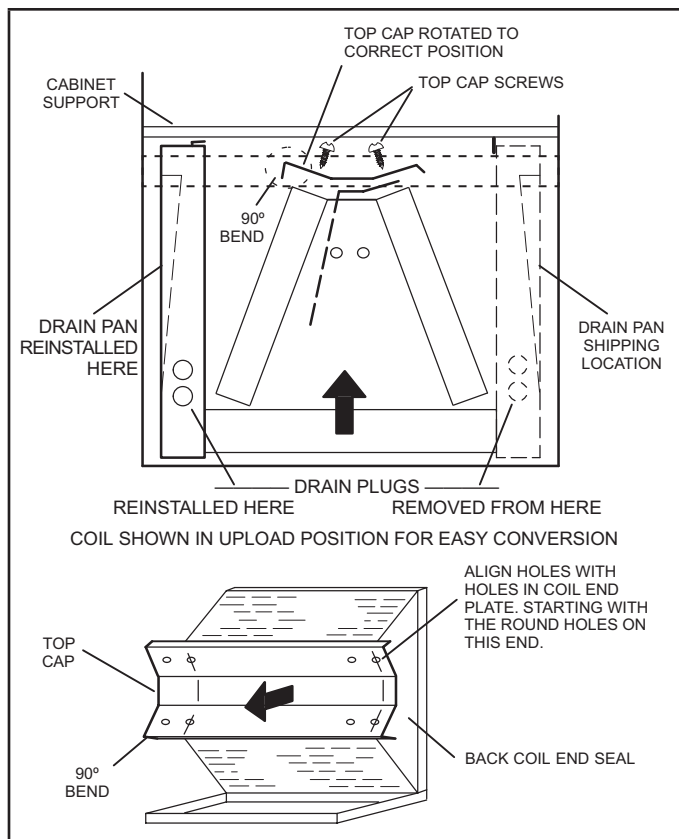

FIGURE 7. Field Modification for Left-Hand Discharge
- 7 - Rotate top cap 180° front-to-back and align with unused screw holes. Holes must align with front and back coil end plates. The top cap has a 45° bend on one side and a 90° bend on the other. **The 90° bend must be on the same side as the horizontal drain pan as illustrated in FIGURE 7.**